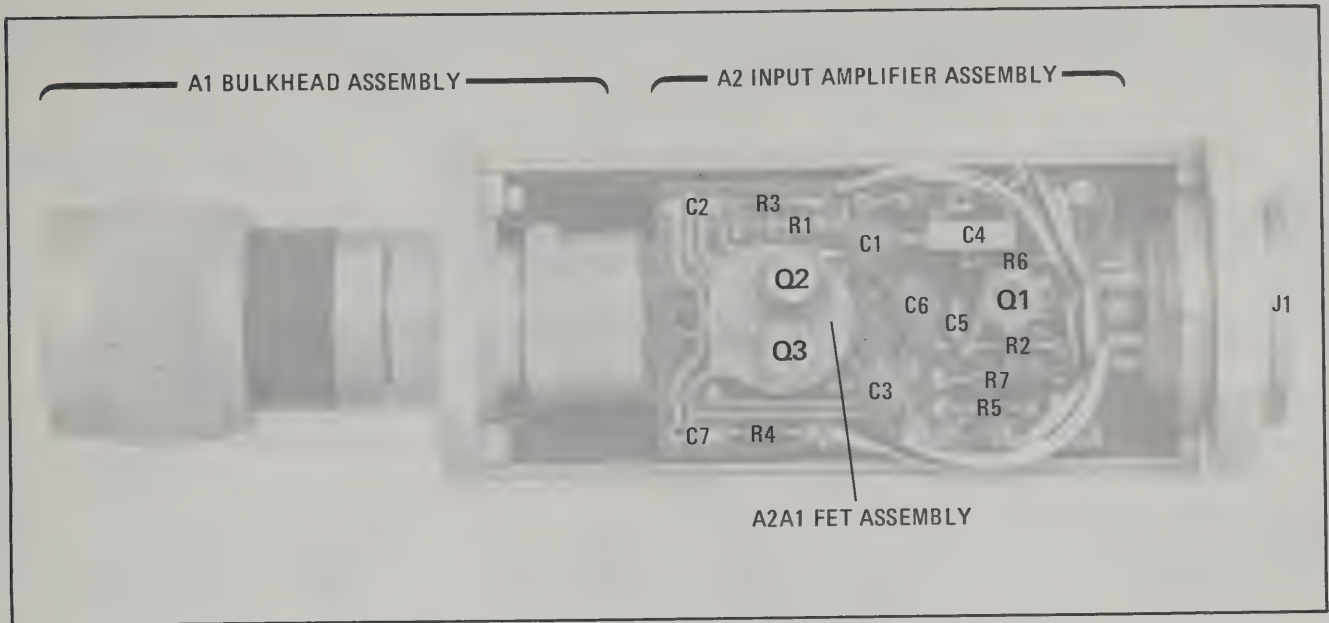
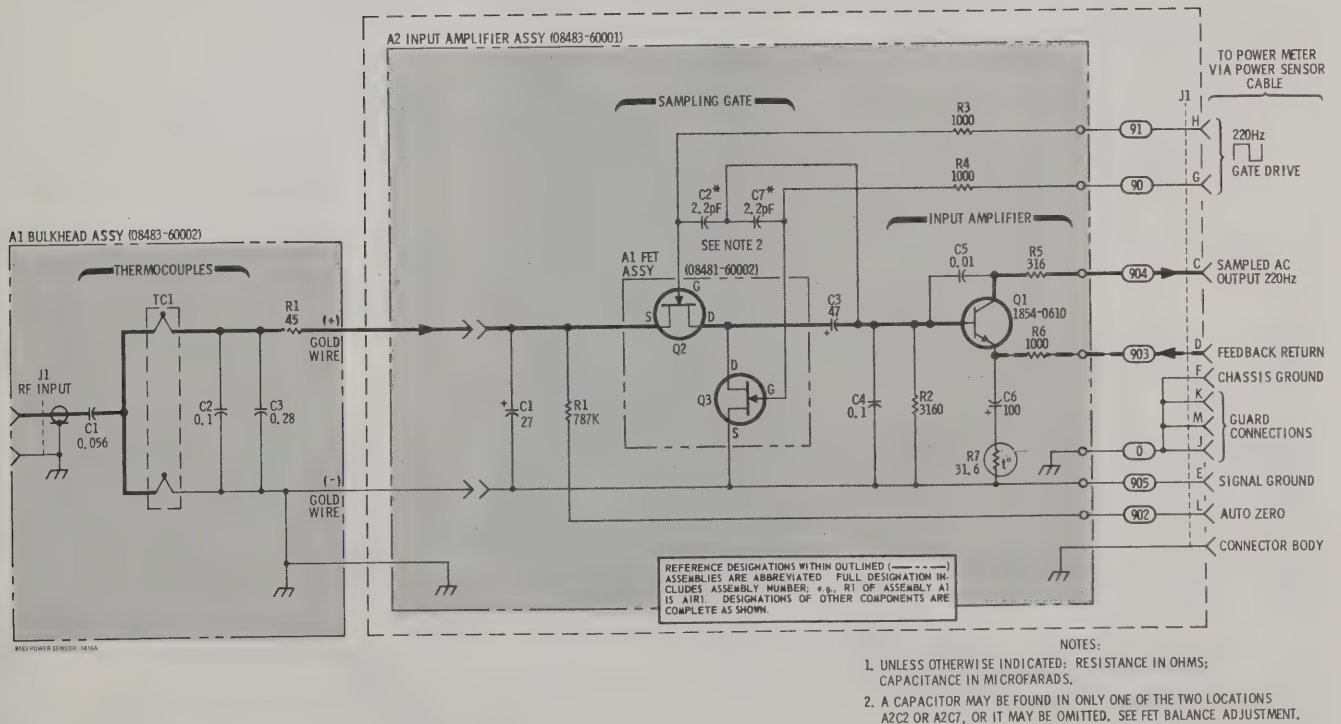

Figure 7. Model 8483A Assembly and Component Locations
Figure 8. Model 8483A Schematic Diagram
42. Figure 7 shows the locations of the assemblies and components of the Model 8483A and Figure 8 is the schematic diagram.